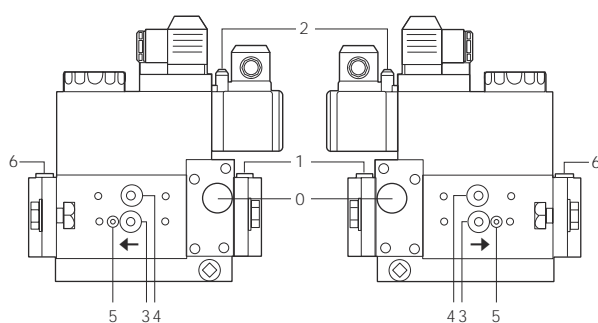
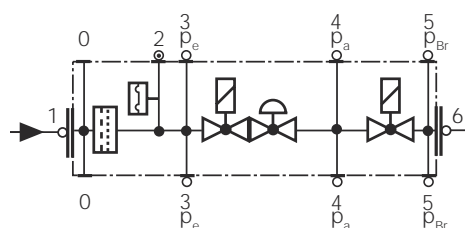

Fig. 16
Fig. 17
- Change the filter if the pressure difference between pressure connection 1 and 3 (Fig. 16-Fig. 17) is  $\Delta p > 10$  mbar.
- Change the filter if the pressure difference between pressure connection 1 and 3 (Fig. 16-Fig. 17) is twice as high compared to the last check.